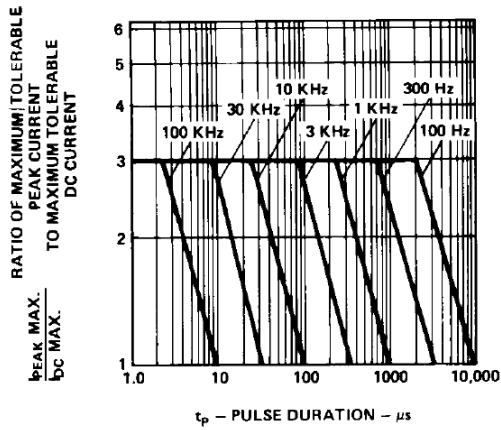

Figure 10. Maximum tolerable peak current vs. pulse duration. ( $I_{DC}$  MAX as per MAX ratings).
1. See Figure 10 (High Efficiency Red), 15 (Yellow), or 20 (Green) to establish pulsed operating conditions.